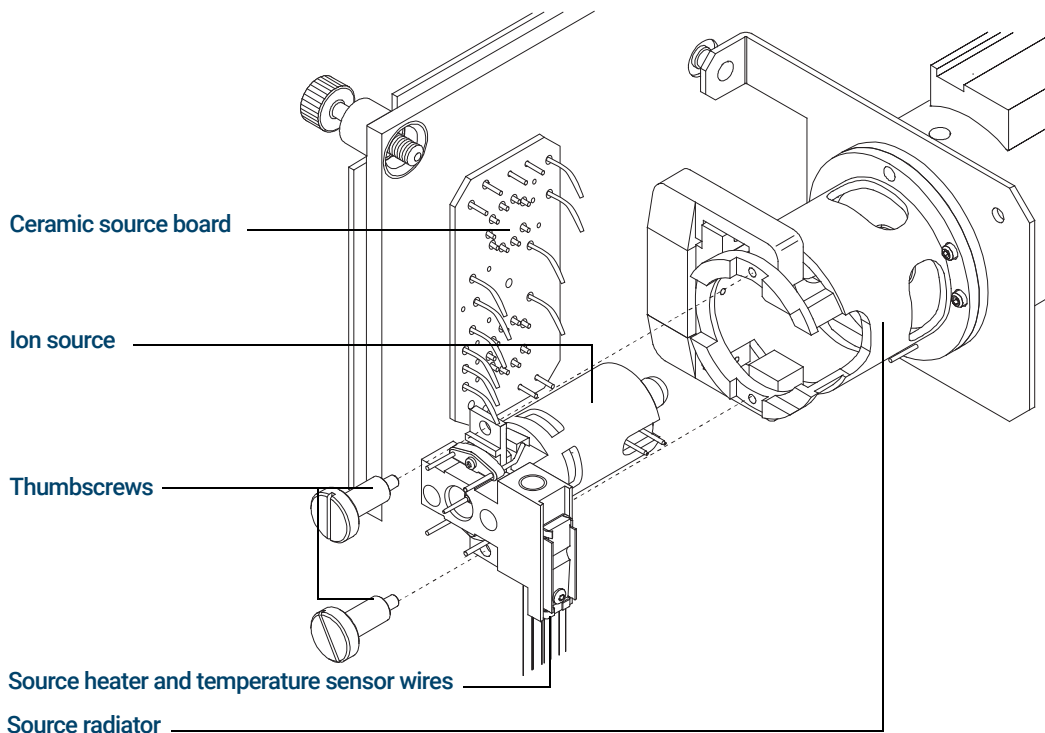

Figure 50. Removing the EI XTR source
- 4 Remove the thumbscrews that hold the ion source in place. (See **Figure 50**.)